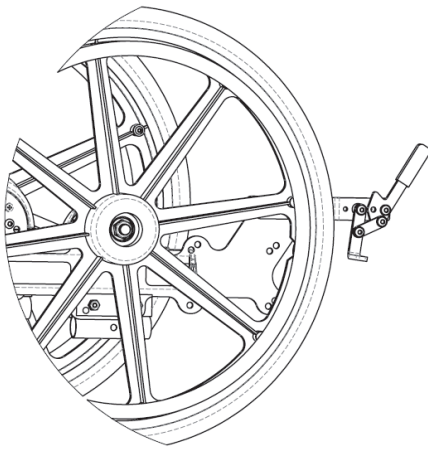

Figure 16.38: *Attendant Wheel Lock (Push to Lock)*
3. To engage the attendant wheel lock (see Figure 16.38), pull the lever towards the wheel until it locks into place.